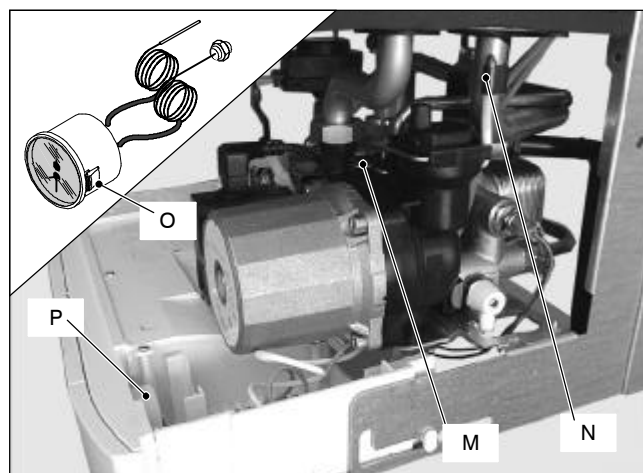

Fig. 54
- 2 Remove the fork M and the probe holder spring N (Fig. 54).